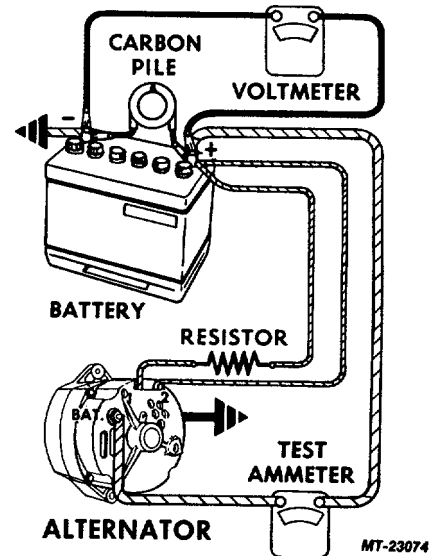

Fig. 12. Connections for Making Bench Test
1. Make connections as shown in Figure 12 except leave the carbon pile disconnected.